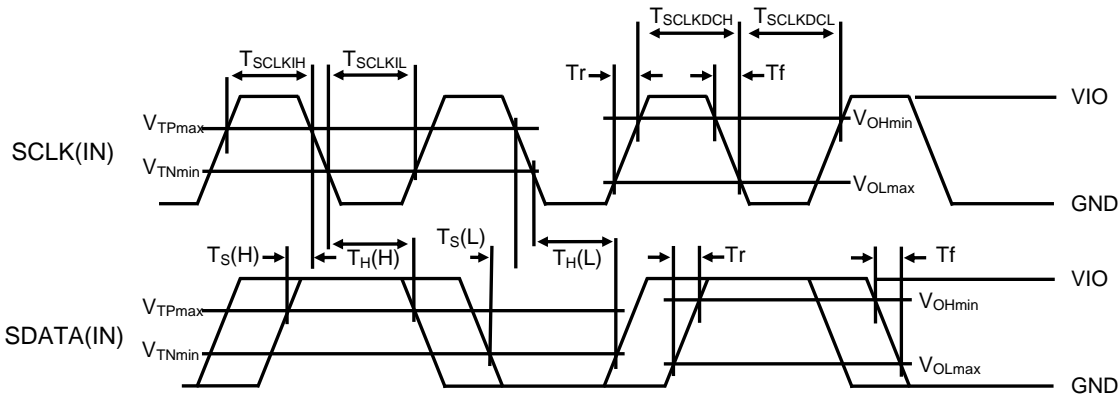

Figure 6. T_{SCLKDH} , $T_{SCLKDCL}$, T_{SCLKIH} , T_{SCLKIL} , T_S , T_H
- Figure 6, 7, 8, 9 and Table 8 show the important parameters for SCLK and SDATA required for proper operations of the Toshiba MIPI RFFE slave interface.